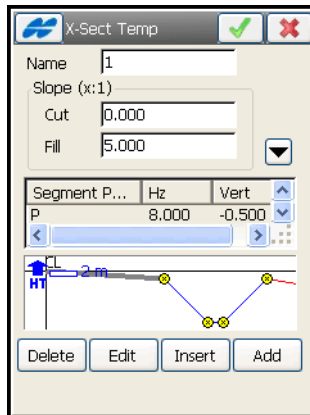

Figure 7-26. Edit X-Sect Template
- **Edit** – opens the properties of the selected template in the next *X-Sect Templates* screen (Figure 7-26).
The *X-Sect Template* screen (Figure 7-26 on page 7-27) displays the parameters of the highlighted template to edit.
The *X-Sect Template* screen (Figure 7-26) also contains a list of segment points comprising the template and a plot of the template. A list of segments consists of three columns: *Segment Point* (the name of points), *Hz* (the horizontal offset), *Vert* (the vertical offset).